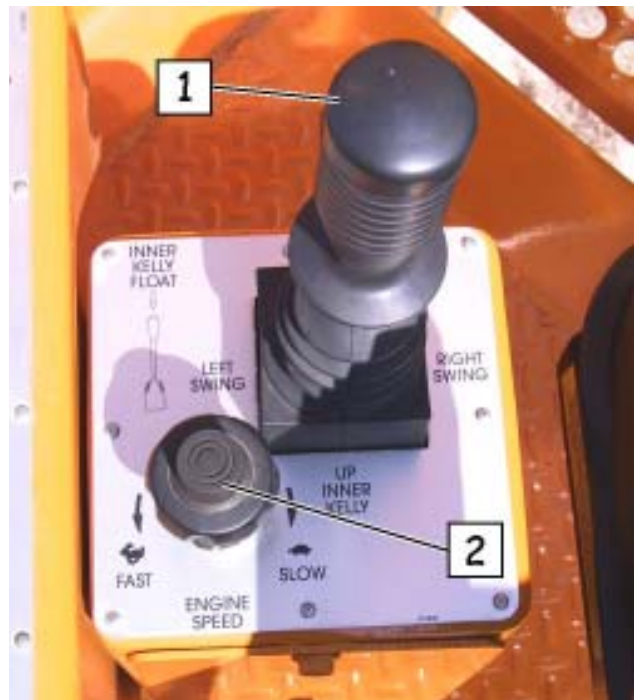

Fig. 3-1b Joystick and Cummins Engine Throttle
These engines have a manual throttle cable (item 2, fig. 3-1b). Pull out or turn counterclockwise to increase RPM. Push in or turn clockwise to decrease RPM.